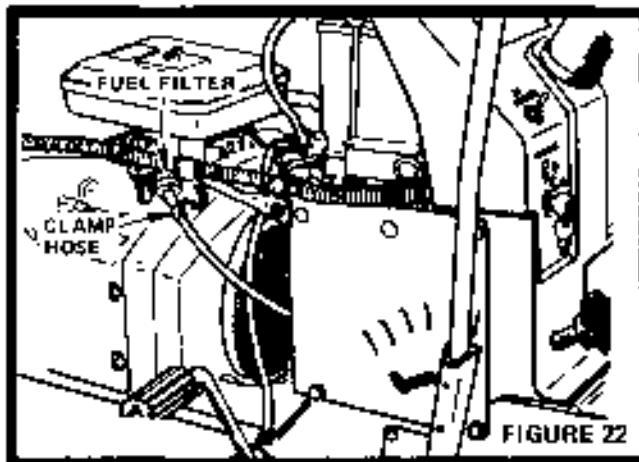
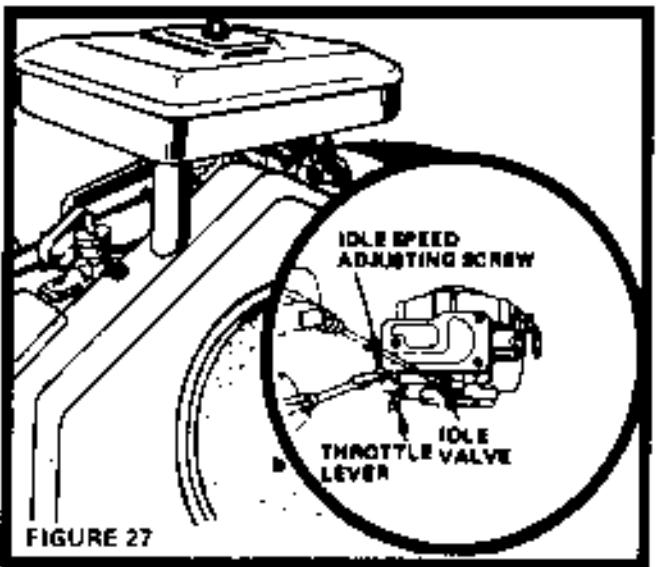

FIGURE 22
FIGURE 27
- Remove Hose Clamps from Fuel Lines at Fuel Filter (Fig. 22).
- Remove Fuel Filter (Fig. 22).
- Turn Idle Valve clockwise (\nearrow) closing finger tight ONLY, and then turn counterclockwise (\nwarrow) 1-1/4 turns (Fig. 27). CAUTION: Valve may be damaged if turned in too far.
WILL NOT START Clutch-Brake Pedal in drive position Attachment Clutch Lever in "ENGAGED" position No gasoline in Fuel Tank or clogged Fuel Line or Fuel Filter Blown Fuse Dead Battery Defective Ignition or loose Wiring Spark Plug fouled	Push Pedal into brake position (Fig. 8) Move Lever in "DISENGAGED" position (Fig. 7). Fill Tank with fresh Gasoline. Check Fuel Line (Fig. 22) and Carburetor (clean if necessary) Check for fault and replace Fuse Recharge or replace Battery Check Wiring Replace Spark Plug and adjust gap (Fig. 20)
HARD TO START Choked improperly, flooded Engine Clogged Fuel Tank, Fuel Line, or Fuel Filter Spark Plug fouled Defective Battery Defective Ignition or loose wiring Water in gasoline or oil tank Improper Carburetor adjustment Poor compression	Place Throttle Control in fast position (Fig. 9) and run starter several times to clean out gas Remove and clean (Fig. 22) Replace Spark Plug and adjust gap (Fig. 20) Recharge or replace Check the wiring and Spark Plug Drain Fuel Tank and Carburetor, use fresh fuel and replace Spark Plug Make necessary adjustments (Fig. 27) Major engine overhaul
ENGINE MISSES OR LACKS POWER Engine overloaded Clogged Fuel Filter Clogged Fuel Tank Partially plugged Air Cleaner Improper Carburetor adjustment Dirty Air Screen Low oil level Spark Plug fouled, improper gap or wrong type Faulty ignition Poor compression Gasoline in oil Dirty Air Cleaner	Shift to a lower gear or reduce load Remove and replace (Fig. 22) Remove and clean Remove and clean (Fig. 16) Make necessary adjustments (Fig. 27) Clean Air Screen, Cylinder Fins (Fig. 18) & Muffler area Add or change oil (Fig. 14) Replace Spark Plugs and adjust gap (Fig. 20) Check Spark Plugs and for any loose wires Major Engine overhaul Drain Engine oil and refill Remove and clean (Fig. 16)
ENGINE OVERHEATS Dirty Air Screen Low oil level Dirty Engine Partially plugged Muffler Improper Carburetor adjustment	Clean Air Screen (Fig. 13) Add or change oil (Fig. 14) Clean Cylinder Fins, rotating Screen and Muffler area Remove and clean Muffler (Fig. 18) Adjust Carburetor (Fig. 27)